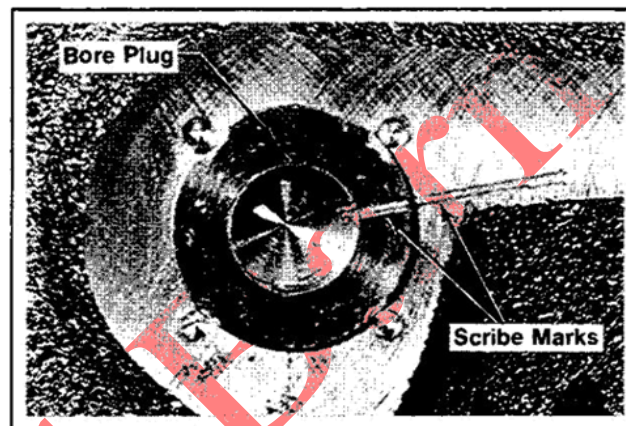

Figure 9-37. Camshaft Bore Plug.
1. Scribe a line across the camshaft bore plug and the #1 crankcase side. This line is used to align the plug on reassembly. Refer to Figure 9-37.